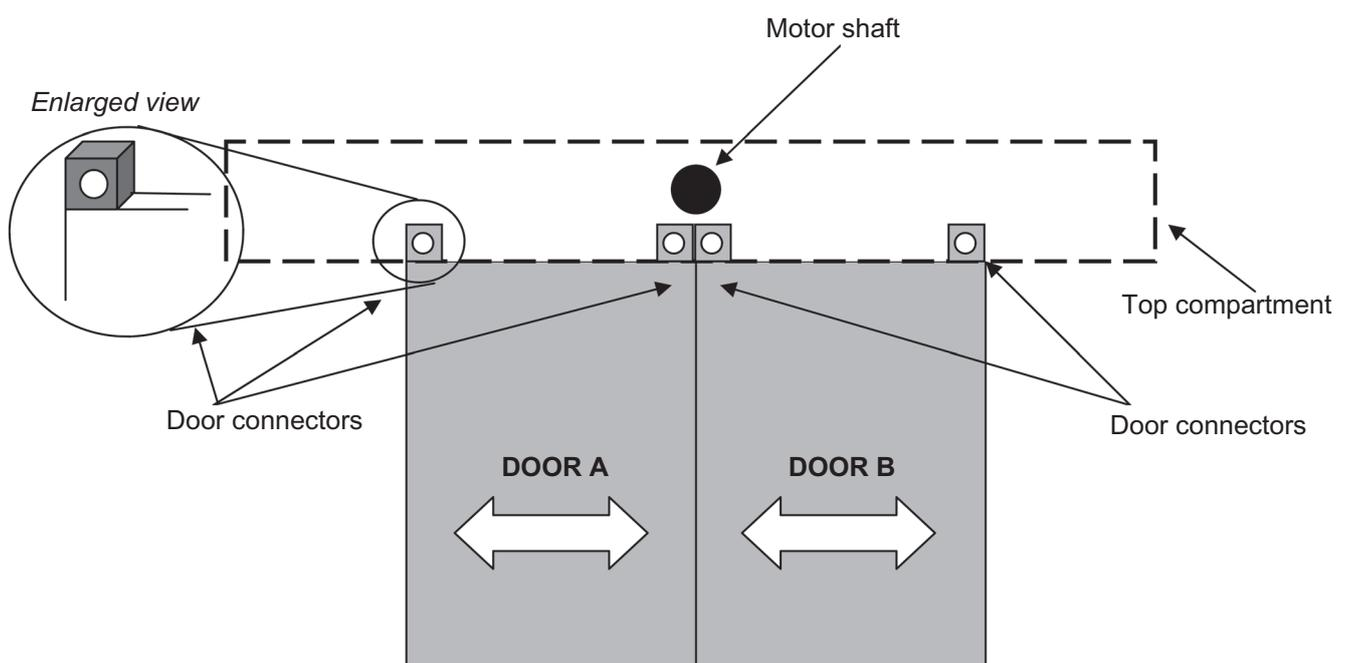

Fig. 3(e)(i)
- (ii) In your answer booklet produce a suitable pulley design for the elevator (making reference to **Fig. 3(e)(ii)** below) using only pulleys with a diameter between 20 mm and 100 mm that will provide a suitable output speed to move the elevator 2.25 metres in 30 seconds. One rotation of the output shaft moves the elevator 25 mm. The input speed from the motor is 5760 rpm with both the input and output shafts required to rotate in an anticlockwise direction (**state clearly the diameter for each of the pulleys on shafts A, B, C and D**). **Fig. 3(e)(ii)** is not drawn to scale.